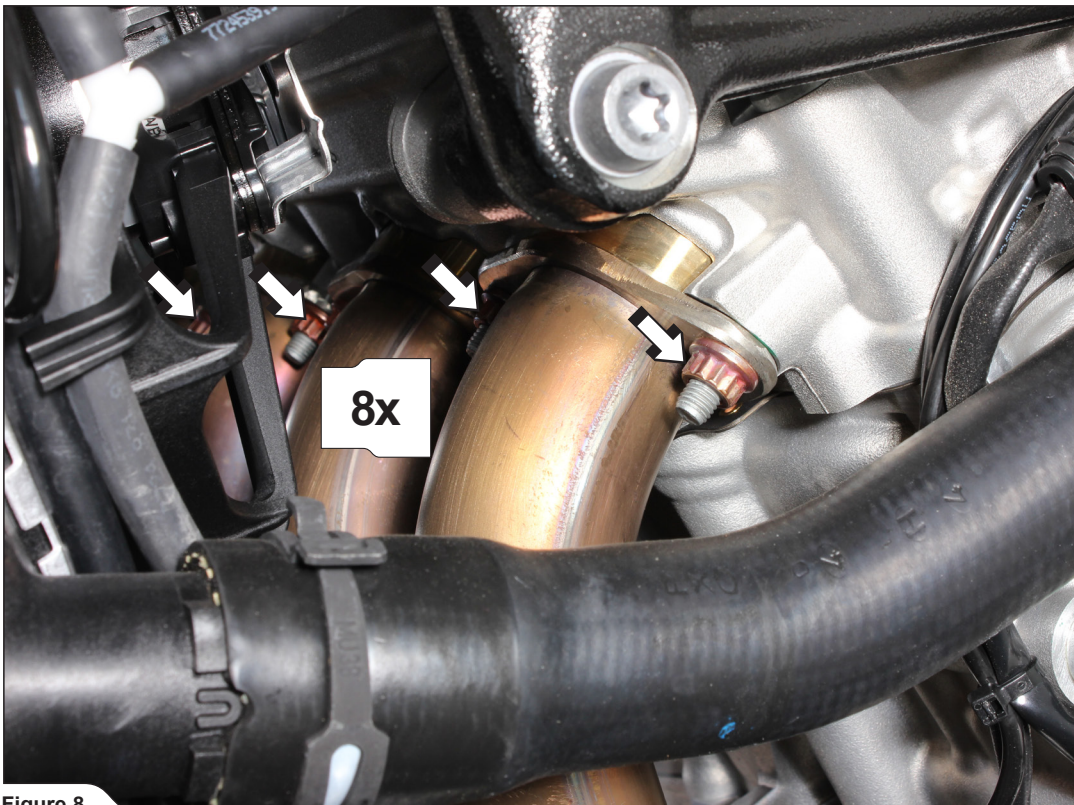

Figure 8
6. Unscrew all flange nuts (Figure 8).